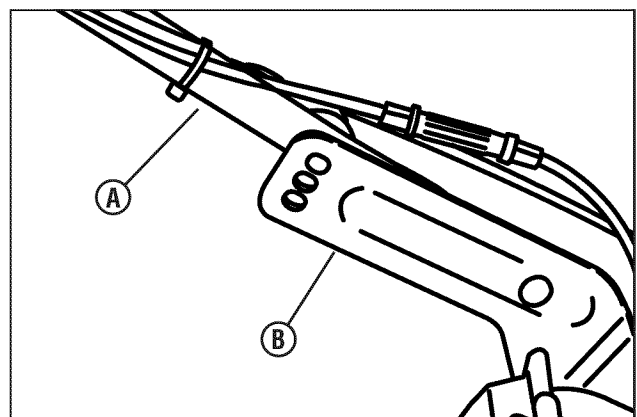

Figure 5: Adjusting the handle height
1. Remove the knobs and carriage bolts securing the lower handle (A, Figure 5) to the mounting brackets (B).